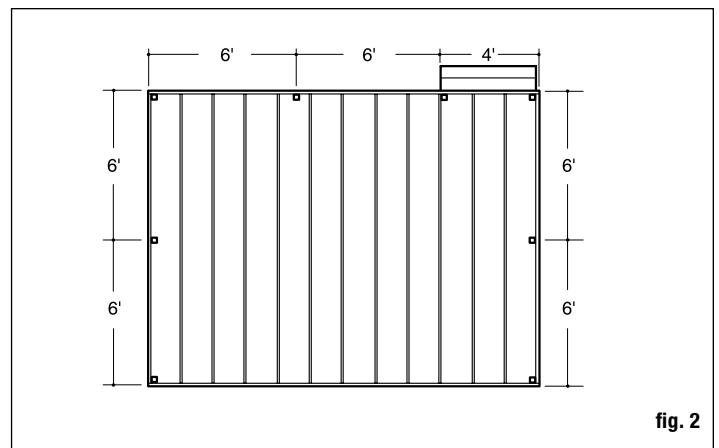

fig. 2
**Step 1** Determine the number of railing posts needed for your deck. Post spacing is either 6' on-center or 8' on-center depending on the rail length chosen. Example: A 12' x 16' deck attached to a building with a 4' access opening on one side will require a total of eight posts (fig. 2).